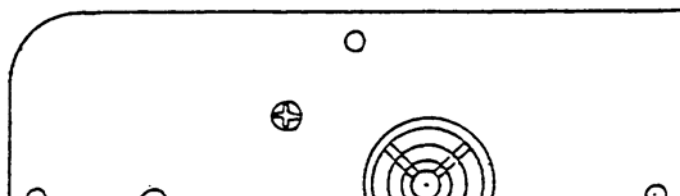

Figure 2
3.4 LX3 Pendant Back Panel *(Figure 2)*
See Figure 2 for a description of the fuses, switches, and connectors on the pendant back panel.